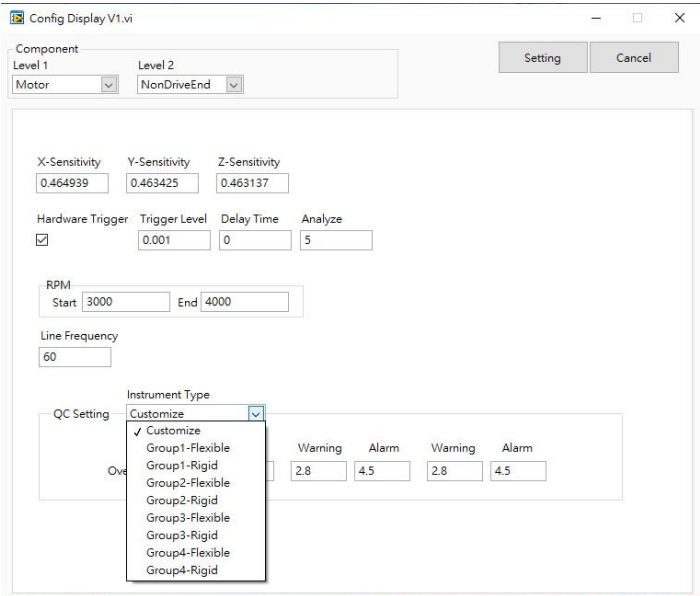

Figure2-27 Aurora Modbus Utility ISO-20816 Defined Equipment Category under Motor.NonDriveEnd Mode
- Instrument Type: Which equipment category defined in ISO-20816 the monitored equipment belongs to, as shown in Figure2-27; reading displays Customize.